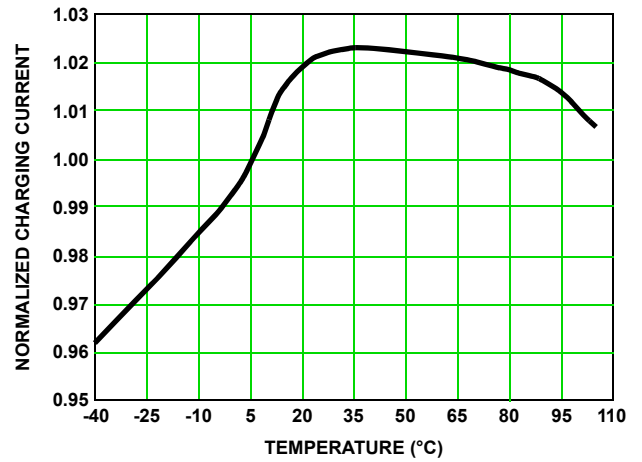

FIGURE 4. CHARGE CURRENT vs TEMPERATURE
5), and in charge current (Figure 4), results from Equation 2 would differ from the calculated frequency. The typical performance curves may be used as a tool along with the previous equations as a more accurate tool to estimate the operating frequency more accurately.